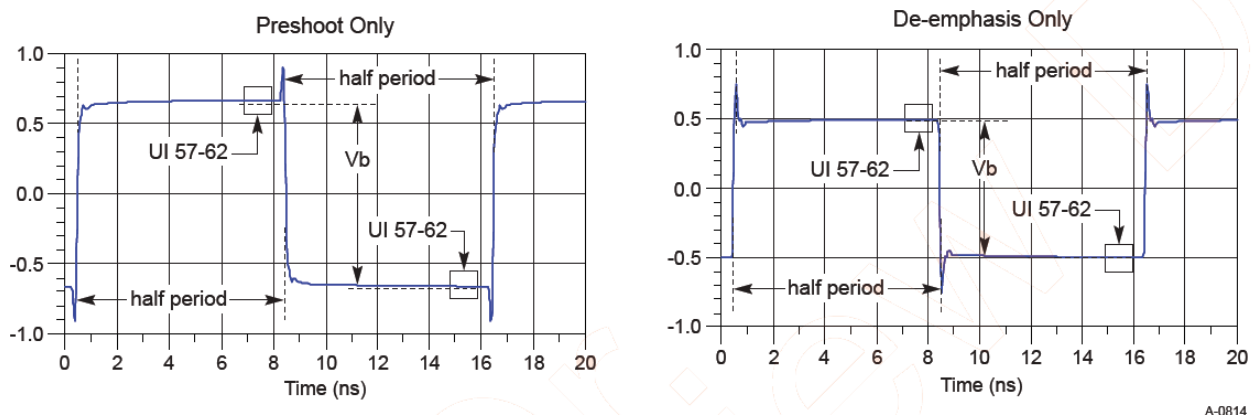

Figure 99 Waveform measurement points for preshoot and de-emphasis
8.0 GT/s, 16.0 GT/s and 32.0 GT/s PCIe signaling must support the full range of presets given in Table 8-1 (PCIe Base Specification Revision 5.0). Presets are defined in terms of ratios, relating the pre-cursor and post-cursor equalization voltages. The pre-cursor (V_c) is referred to as pre-shoot, while the post-cursor (V_b) is referred to as de-emphasis. This convention permits the specification to retain the existing 2.5 GT/s and 5.0 GT/s definitions for Tx equalization, where only de-emphasis is defined, and it allows preshoot and de-emphasis to be defined such that each is independent of the other. The tolerances in Table 8-1 (PCIe Base Specification Revision 5) also apply to 2.5 and 5.0 GT/s de-emphasis. The maximum swing, V_d , is also shown to illustrate that, when both c_{+1} and c_{-1} are nonzero, the swing of V_a does not reach the maximum as defined by V_d . The high frequency nature of PCIe signaling makes measurement of single UI pulse heights impractical. Consequently all amplitude measurements are made with low frequency waveforms as shown in Figure 99.